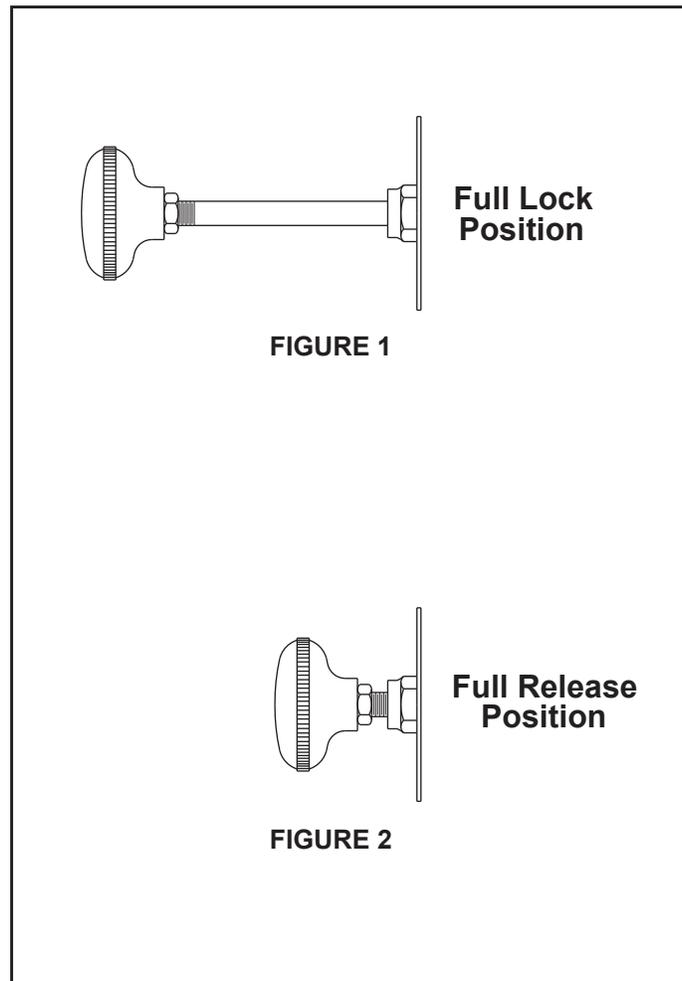

FIGURE 1
4. Move knob to full lock position as indicated on dash plate (Figure 1). Alarm will sound. If alarm does not sound, discontinue use of lock, determine cause and correct problem before using lock.